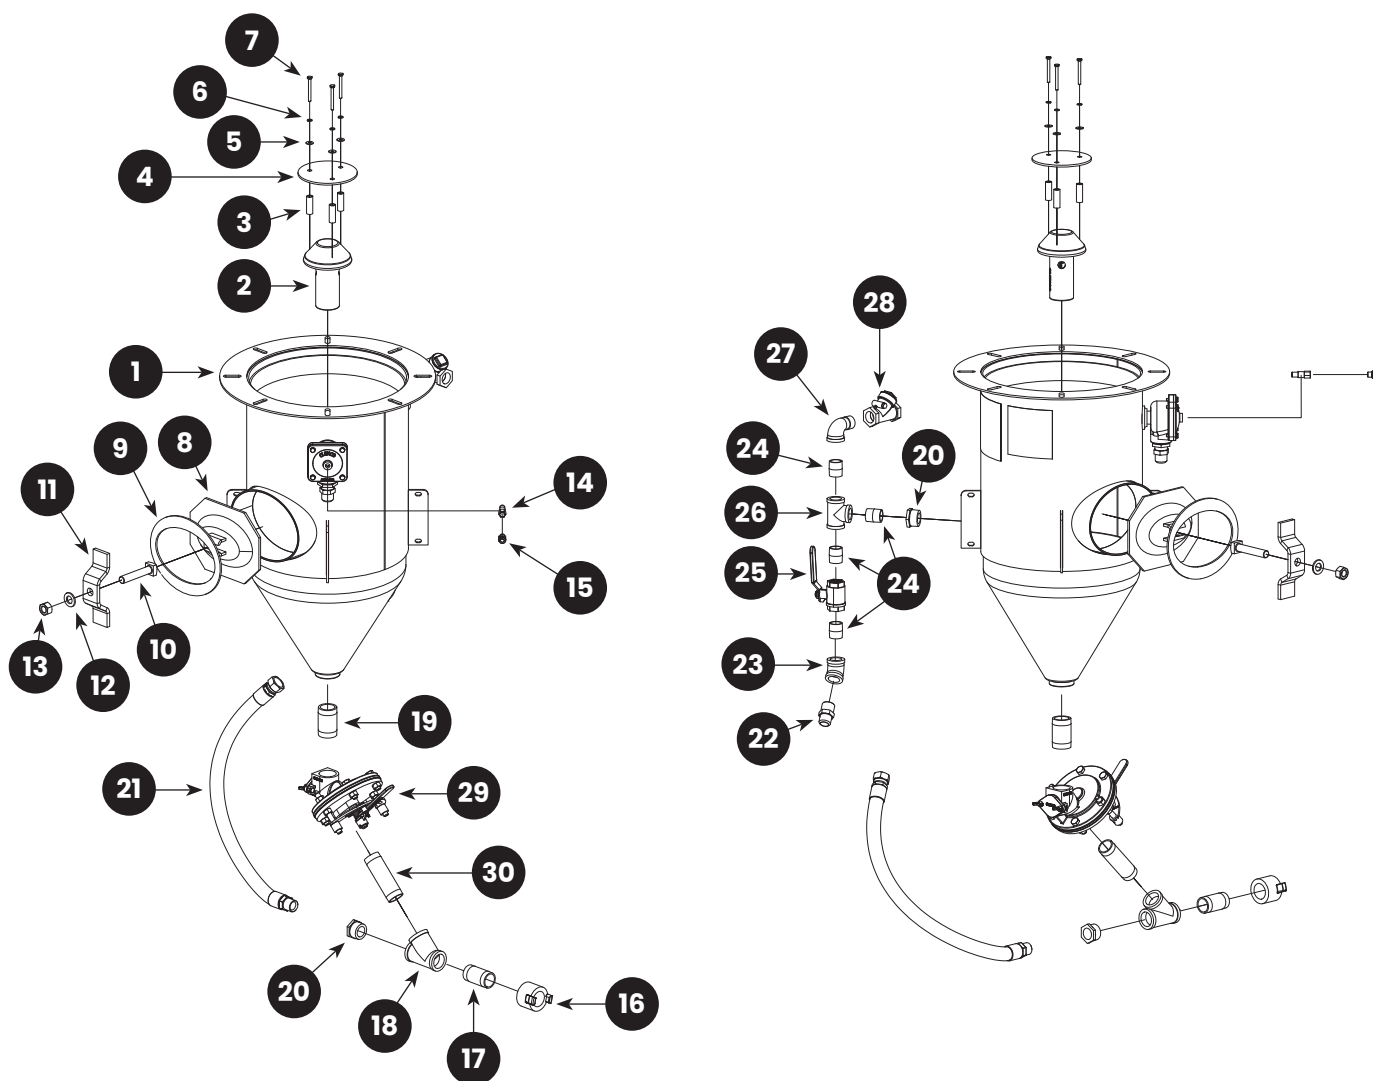

FIGURE 23
9.8 – Lightweight Media Blast Machine – Figure 23